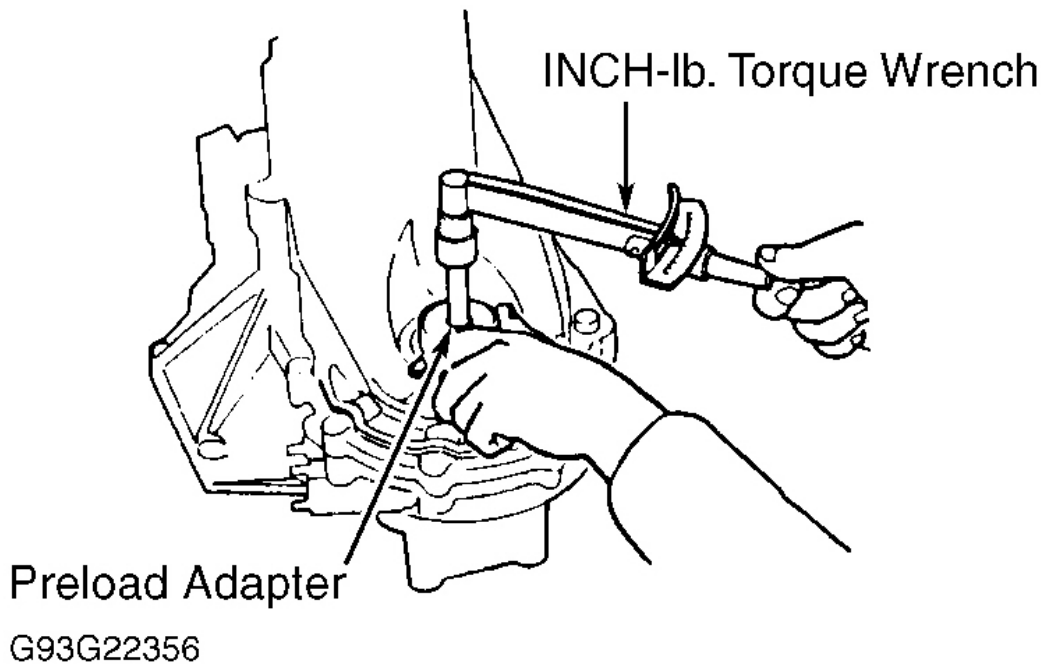

Fig. 33: Checking Differential Bearing Preload
6. Install Preload Adapter (07HAJ-PK40201) into differential assembly. See **Fig. 33** . Install INCH-lb. torque wrench on preload adapter. Measure differential assembly bearing preload by checking starting torque required to rotate differential assembly in both directions at room temperature.